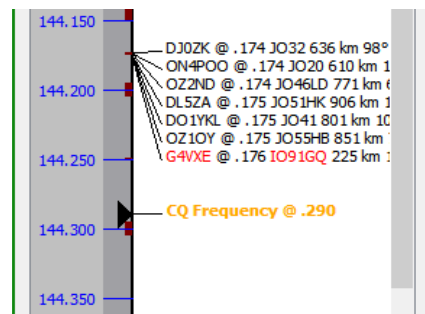

Figure 173 – Run frequency marker
- If operating in Run mode, the current Run frequency is marked on the display¹³⁹ as '**CQ Frequency**', with the fractional frequency appended (see Figure 173); the marker changes colour if the rig moves off the run frequency.